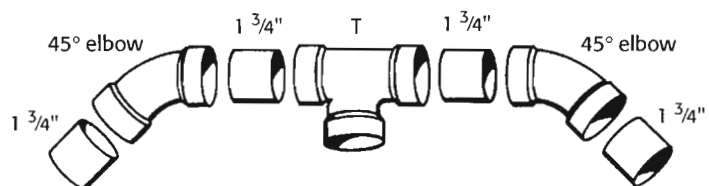

Figure 9. Upper leg support
a. Using one T section, two 45° elbows, and four 1 3/4-inch connectors, assemble one upper leg support (as shown in figure 9). You don't need to consider the orientation of the T section at this time. Be sure that the elbows are aligned accurately in the same plane. Repeat the procedure to assemble the second upper leg support.